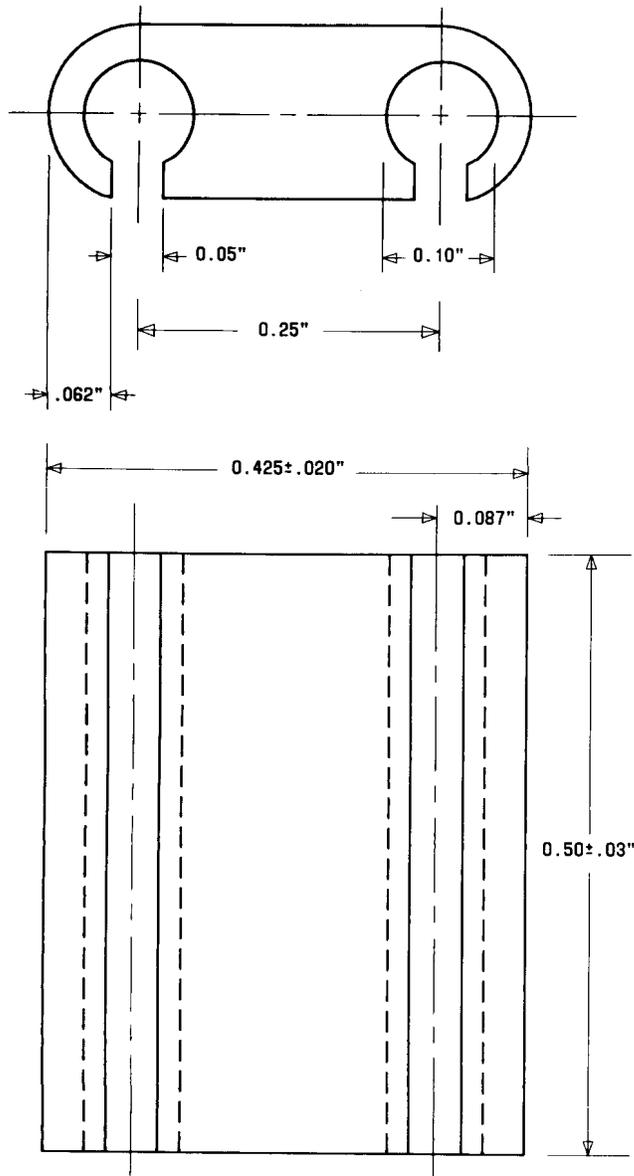

Fig. 8—KS-21168, L1, Terminal Insulator Tool
2.09 KS-21168, L1: The KS-21168, L1, terminal insulator tool (Fig. 8) is used to insulate, protect, and designate special service pairs on a 303 connector cross-connect field. The KS-21168, L1, terminal insulator tool can be expanded or compressed to snugly fit irregular terminal lugs. Longitudinal slots are provided to allow clearance for bridged pairs.